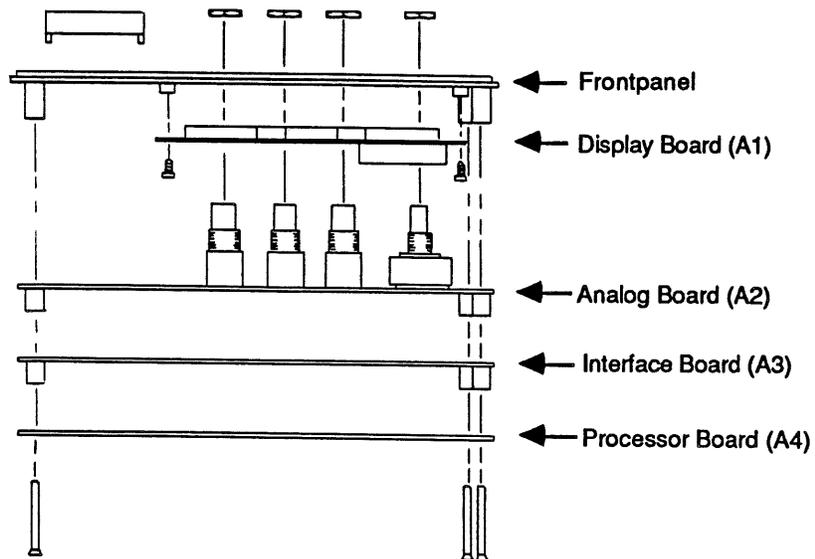

Figure 4-10. Circuit Board Pack Disassembly.
- 3) Remove the circuit board pack from the TMA802. The circuit board pack consists of the TMA802 frontpanel, Display Board (A1), Analog Board (A2), Interface Board (A3) and Processor Board (A4). See Figure 4-10.
- 4) Separate only the Processor Board and Interface Board from the circuit board pack by removing the four corner screws that hold the pack together (Figure 4-10). Leave the Analog Board attached to the frontpanel assembly.
NOTE: if the Analog Board (or Display Board) must be separated from the frontpanel assembly for repair or replacement, first remove four nuts that hold the frontpanel connectors and IMPEDANCE CABLE switch to the frontpanel (Figure 4-10), then pull the Analog Board away from the frontpanel assembly.
To separate the Display Board from the frontpanel, remove four screws that hold the Display Board to the frontpanel (Figure 4-10).